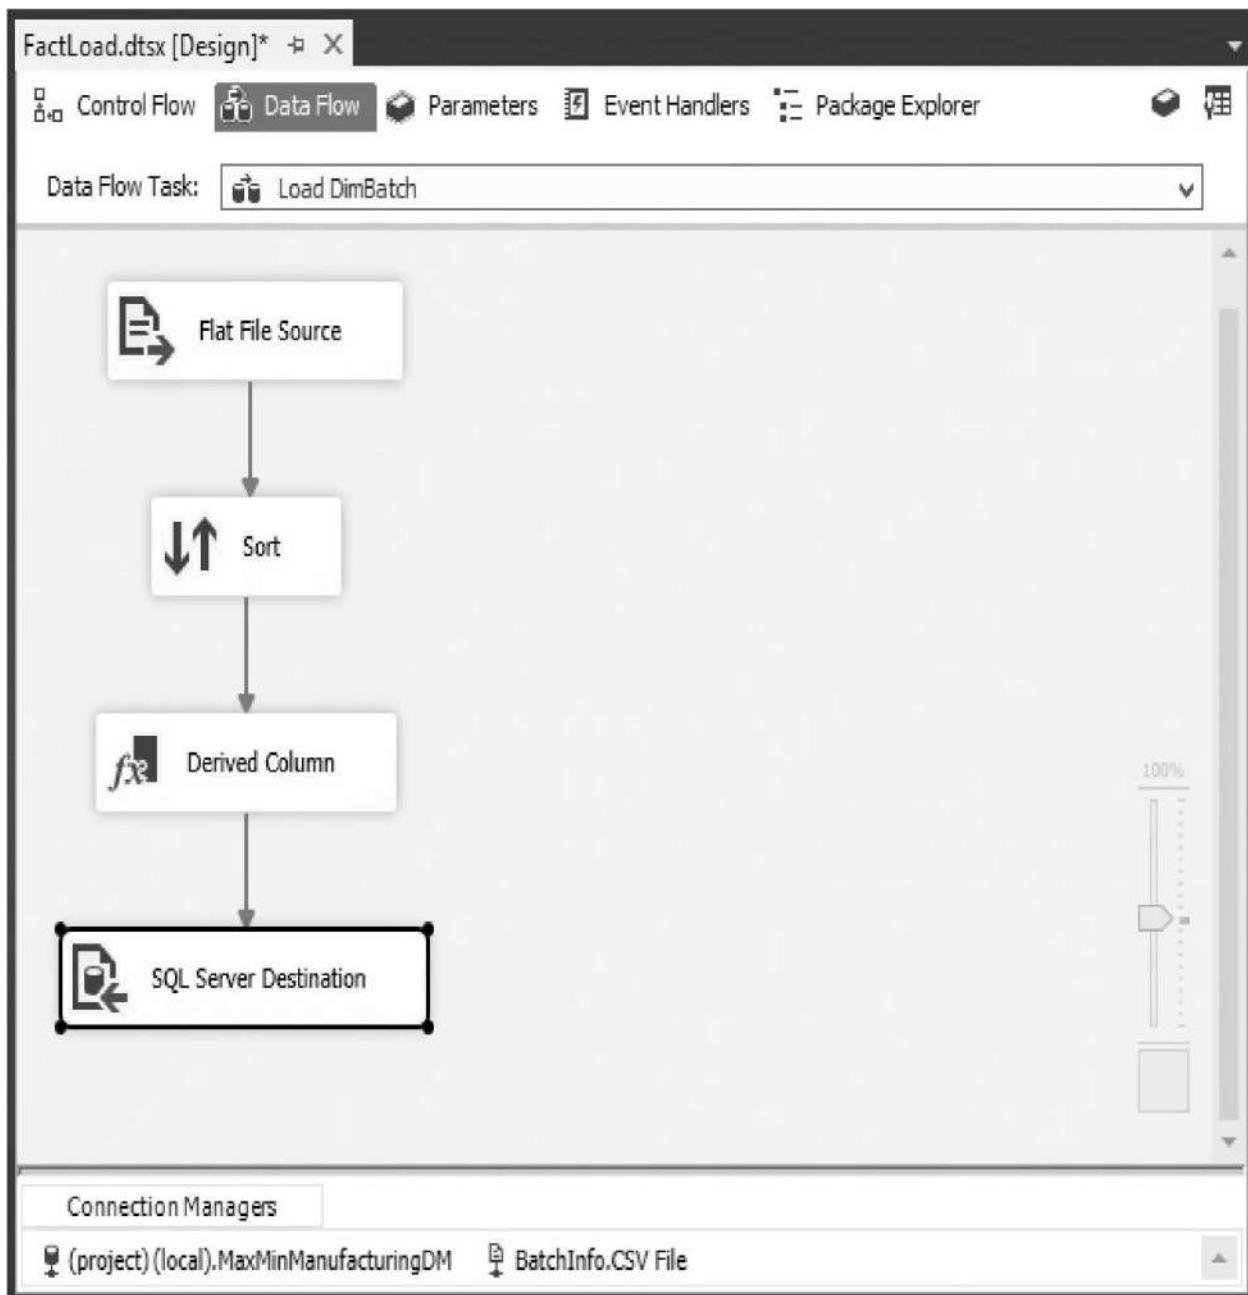

Figure 8-17 The Data Flow tab for the Load DimBatch Data Flow task
37. Click OK to exit the SQL Destination Editor dialog box. The Data Flow tab should appear, as shown in Figure 8-17.